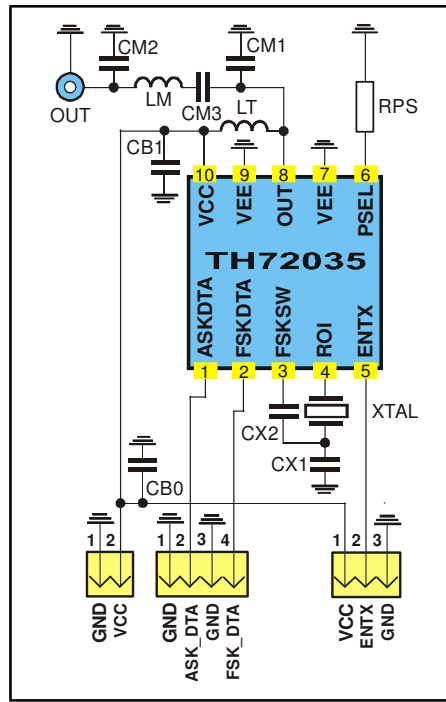

Fig. 18: Test circuit for FSK and ASK with 50  $\Omega$  matching network
typical values at  $T_A = 23\text{ °C}$  and  $V_{CC} = 3\text{ V}$ ; test circuit shown in Fig. 18,  $f_c = 868.3\text{ MHz}$
- Data according to test circuit in Fig. 18 (868.3MHz)
### 6.1 Test circuit component list to Fig. 18